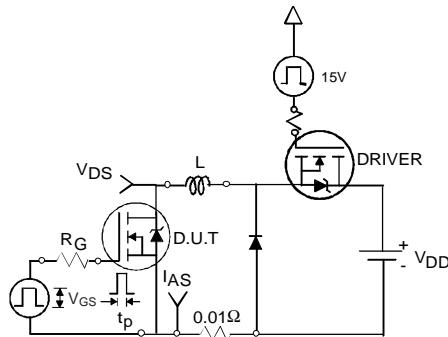

Fig 12a. Unclamped Inductive Test Circuit
3. Equation below based on circuit and waveforms shown in Figures 12a, 12b.
- ④ Pulse width $\leq 300\mu\text{s}$; duty cycle $\leq 2\%$.
- ⑤ $C_{oss\ eff.}$ is a fixed capacitance that gives the same charging time as C_{oss} while V_{DS} is rising from 0 to 80% V_{DSS} .
- ⑥ Limited by $T_{J\max}$, see Fig 12a, 12b, 15, 16 for typical repetitive avalanche performance.
- ⑦ This value determined from sample failure population. 100% tested to this value in production.